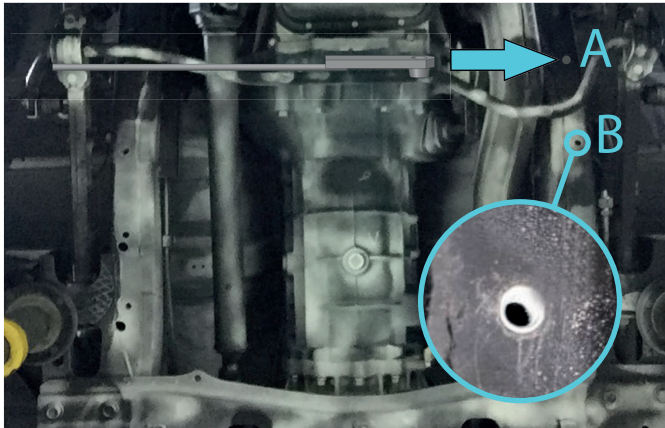

Fig. 1
1. Install insert nut M8x1.25 with wire (item C) into hole B through hole A (fig.1).